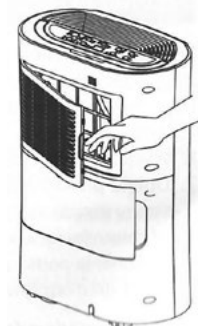

Fig. 7
- Remove the inlet grille (6) and the carbon filter cartridge (13) (Fig. 7). Dust the grille (6) with a soft brush, wash it in water with a detergent and then rinse and dry. The grille must be completely clean. In the case of persistent grime, repeat the cleaning process. Dust the cartridge with a soft brush but do not wash it. Replace the filters after cleaning. Filters should be cleaned once every 2-3 weeks. If mechanical damage is found, replace the filters.